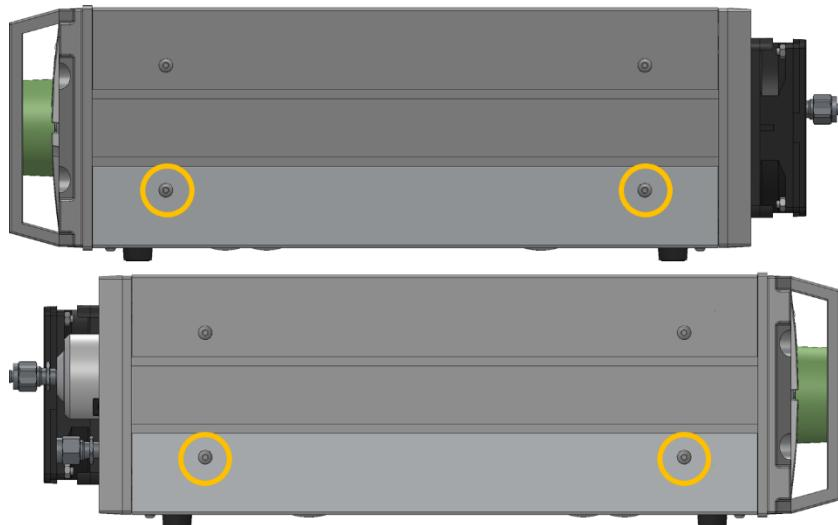

Figure 29. Location of bottom cover screws on instrument sides.
- Unscrew the 4 pcs of M4x6 mm screws on the instrument sides. See Figure 29 for locating screws.